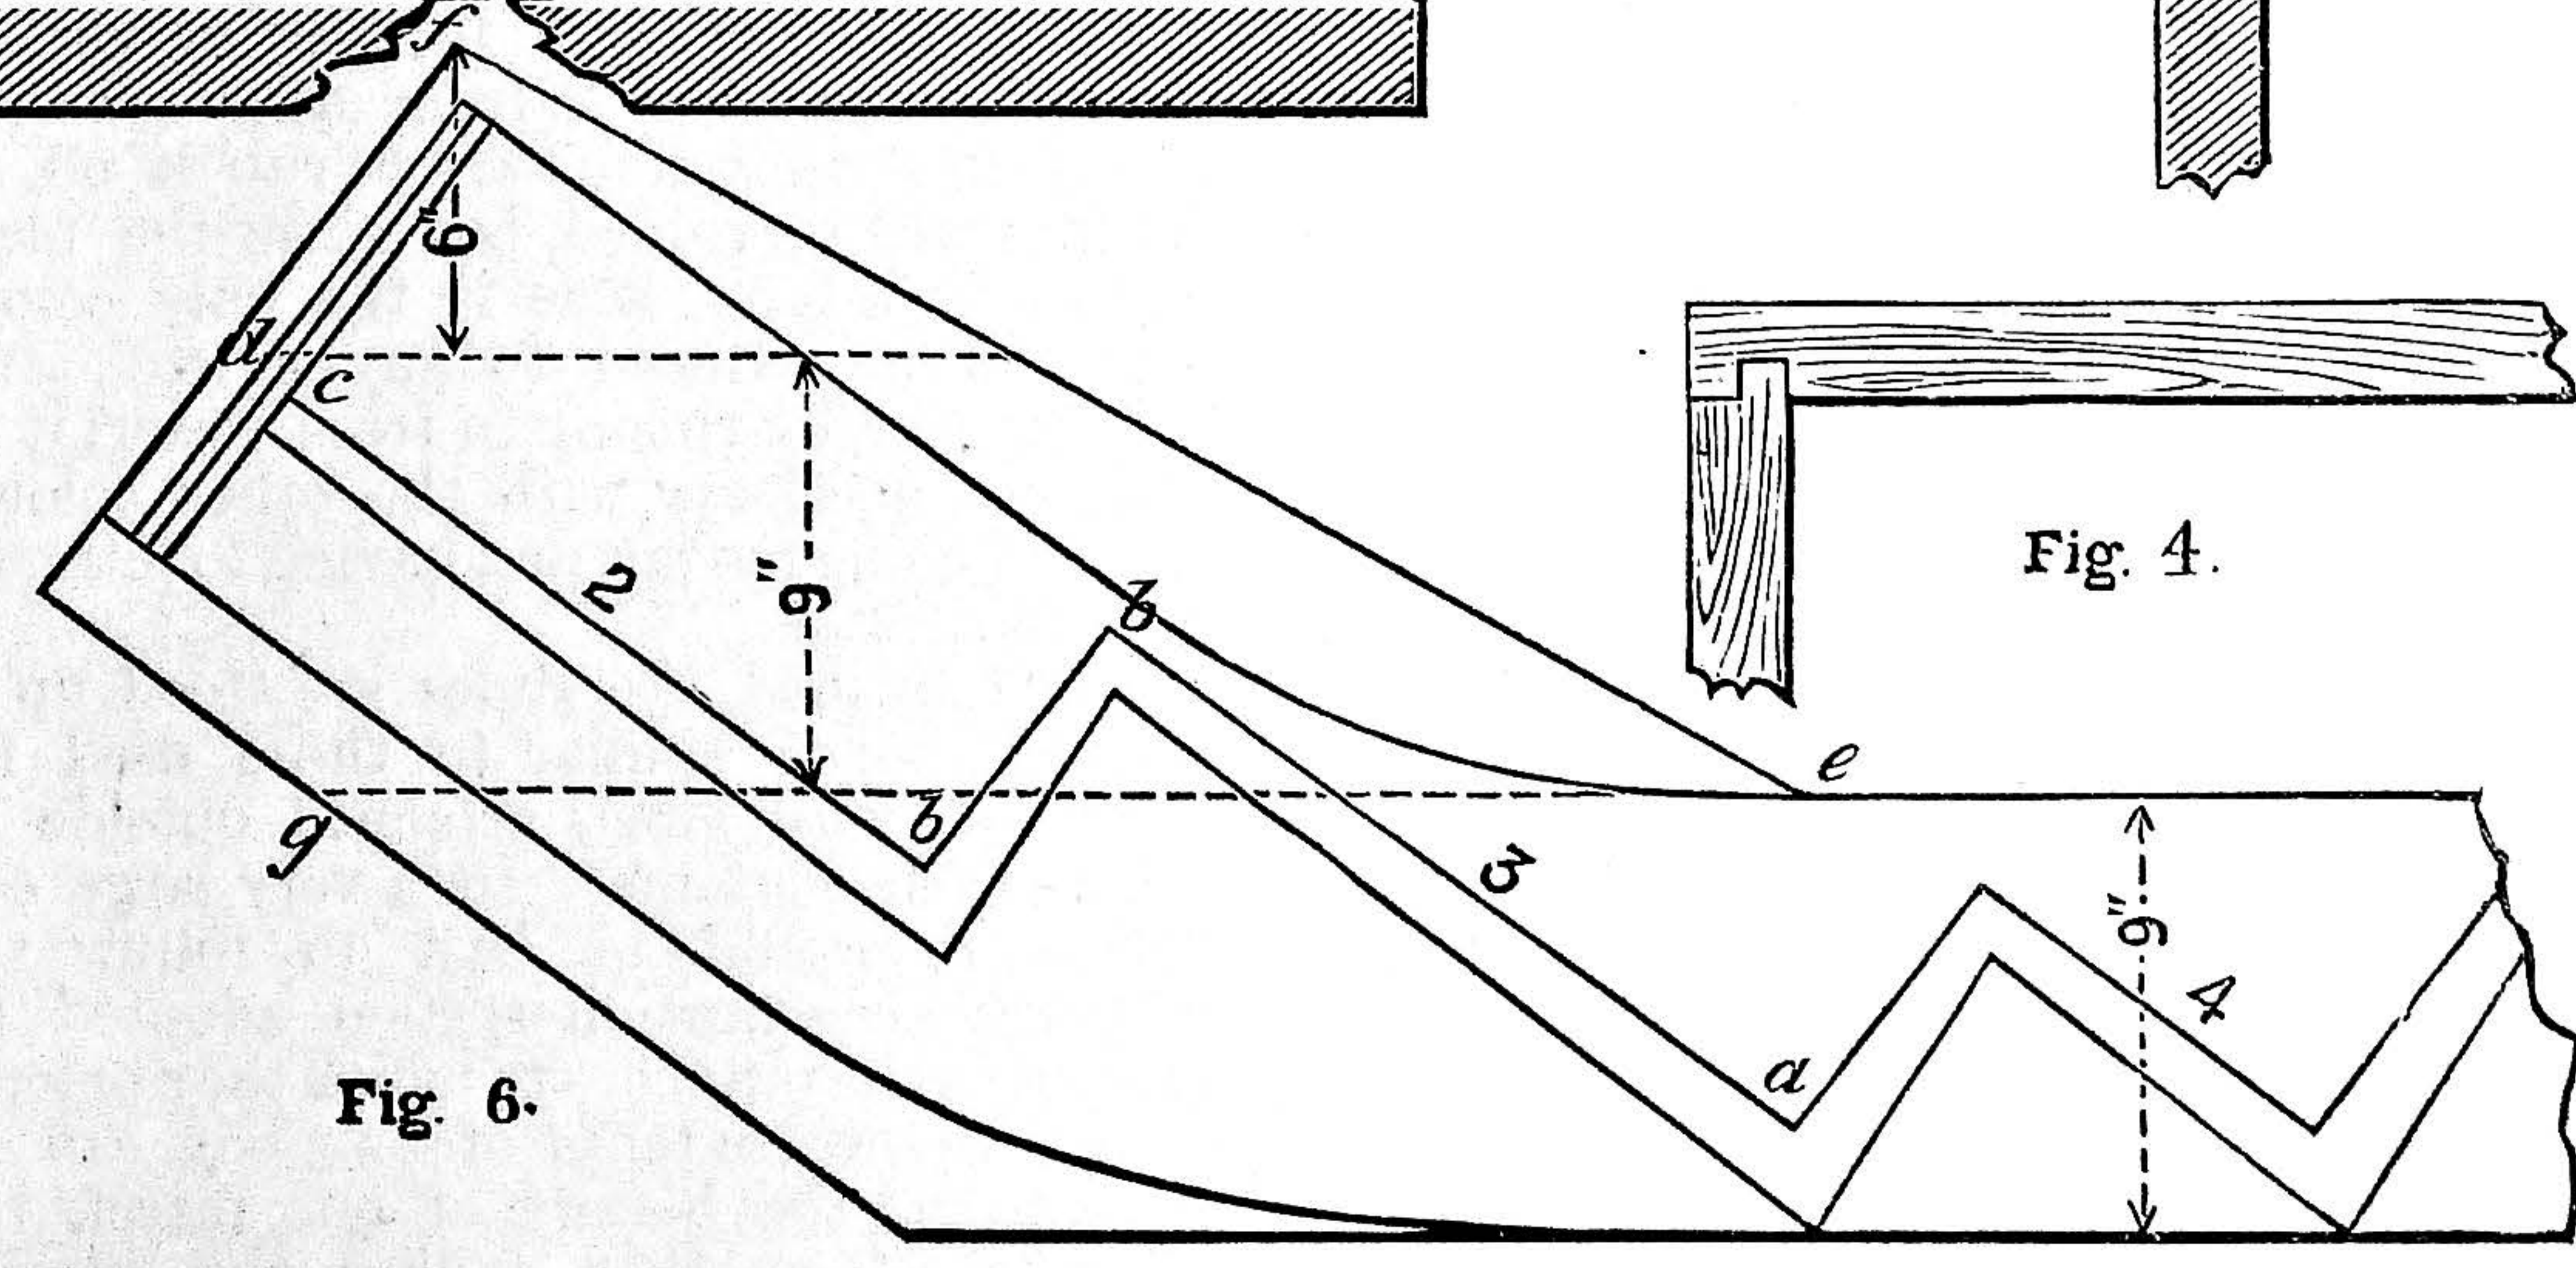
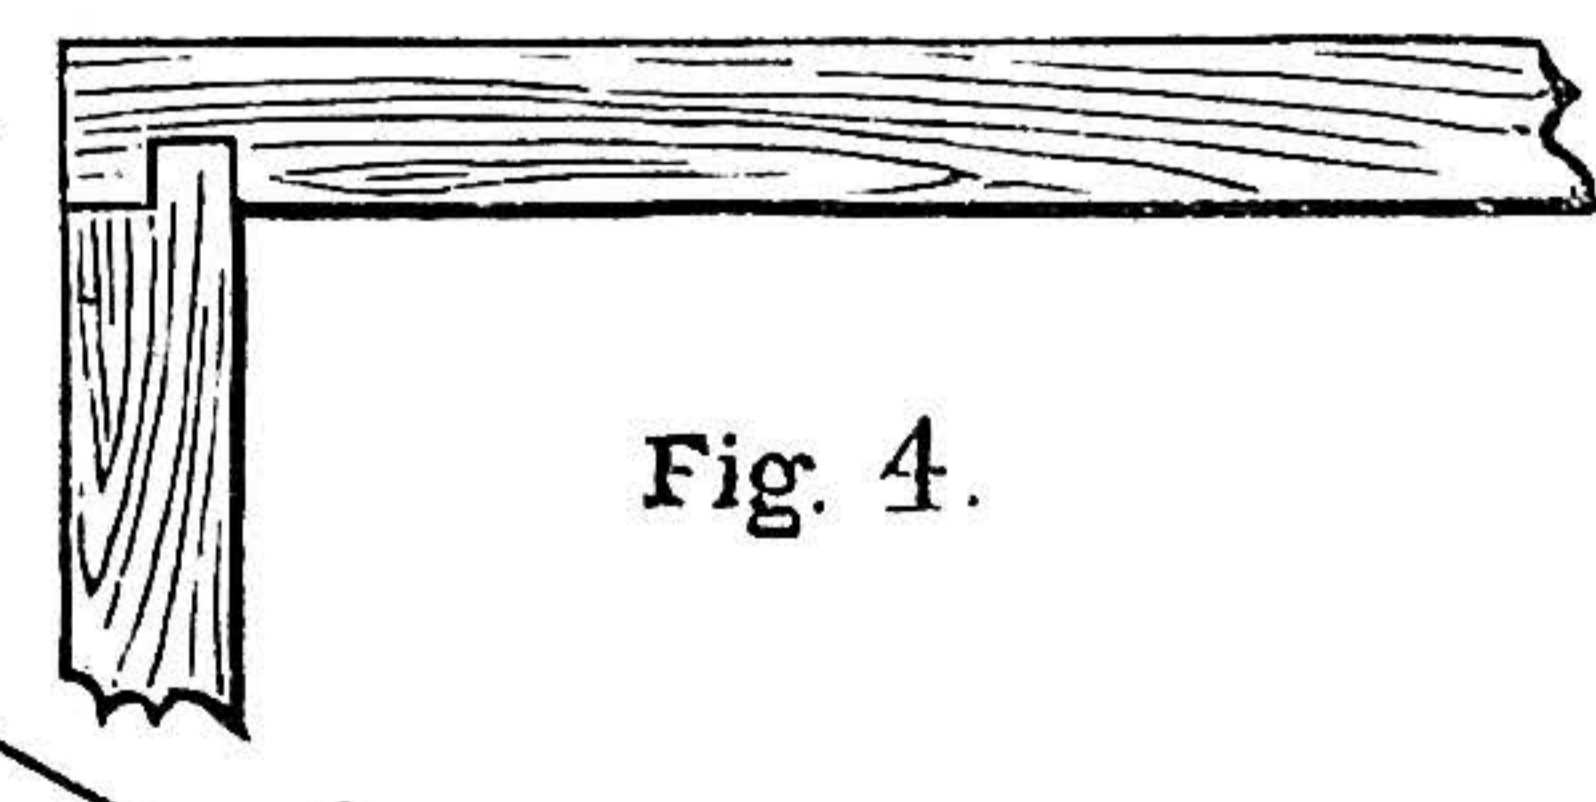

Fig. 6.
Fig. 4.
*Setting Out the Wall-Strings.*—Having found the necessary length for our wall-strings (from Fig. 1), we proceed to set it out with the pitch-board, starting at the top and working downwards until riser No. 4 is reached (as seen in Fig. 6). At right angles to this riser draw a line *a b*, equal in length to *a b*, Fig. 10. This gives winder No. 3. Next draw riser No. 3, *b*, and again draw a line square off this the length from *b* to *c* on Fig. 10, thus obtaining one side of winder 2. Draw the line *d* 1 in. beyond *c*, this being the thickness of return-string (Fig. 5), which enters a groove (as shown at Fig. 4).
*Gluing up the Wall-Strings.*—As it is obvious from Fig. 6 that a 9 in. board would not be nearly wide enough for the winders, pieces must be glued on the string (with a tongue in the joint) as at *e f g*, the dotted line representing the joint-line.
*Easements on the Strings.*—The easement on the string in Fig. 6 should be made as shown, keeping the line as close as convenient to *b*, or otherwise the depth of string above the second winder will be unsightly. This depth must, of course, be the same on the string (Fig. 5), forming an easement to meet one at the bottom of string from the skirting.
Staircasing. Fig. 1.—Sectional Elevation. Fig. 2.—Plan. Fig. 3.—Step. Fig. 4.—Joint between Strings. Fig. 5.—String—B, Bevel; F L, Floor Line; A, Tongue. Fig. 6.—Enlargement of String for Winders. Figs. 7 and 8.—Alternative Method of placing Winders. Fig. 9.—Housing Risers (R) in Newel. Fig. 10.—Sketch for Full-size Drawings. Fig. 11.—Sketch of Template for Winders, showing its Application to Board in Practice.